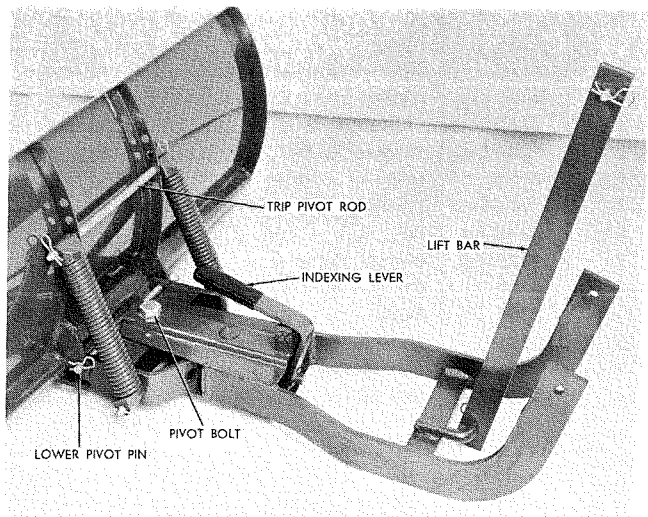

FIGURE 1
1. The blade is shipped complete in one carton. There are three (3) main parts in the carton: the blade assembly, frame assembly, and hardware package. Remove the parts from the carton.
2. Position the blade and frame assemblies as shown in Figure 1, and insert the lower pivot rod through matching holes in the sector and blade brackets. Secure with hairpin cotters.
4. Assemble the end of the lift bar to the frame lift bracket as shown in Figure 1. Secure with a flat washer and hairpin cotter. Slide the assembly under the tractor from the front until the upturned ends of the frame lift arms are to the rear of the steering tie rods.
depress the indexing lever, Figure 1, and swing the blade to the desired position. Release the lever and allow the indexing pin to lock the blade in place.
Before operation, make sure all bolts are tight and cottes are in place. Excessive play in the pivot sector can be removed by tightening the large pivot bolt. (Figure 1.)